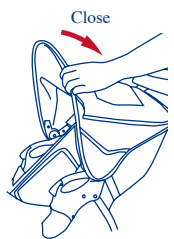

Fig. 11
**To fold the canopy:** pull backwards on the front edge. (Fig. 11)